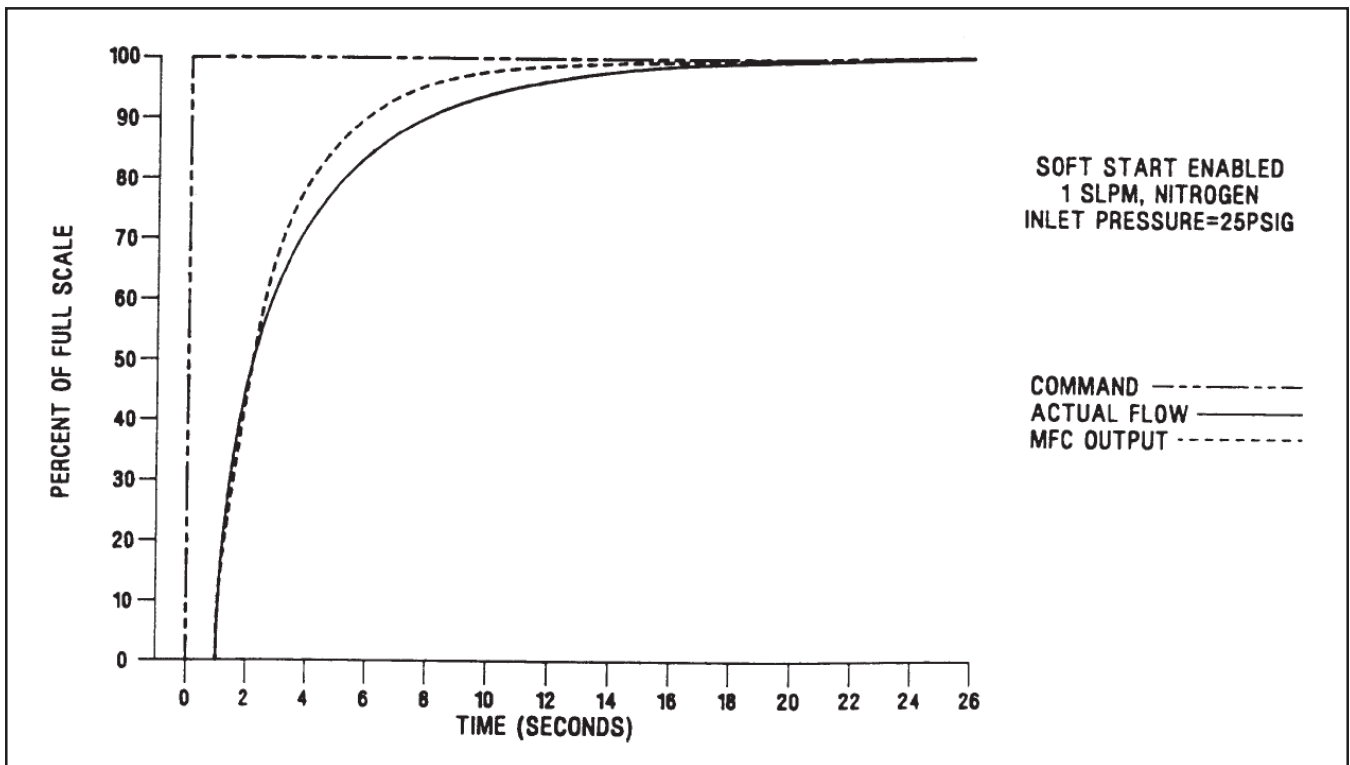

Figure 1-2 0 - 100% Command Step, Soft Start Enabled.
- **Soft Start** provides a flow ramping function which slows down the introduction of the process gas for those processes which cannot tolerate rapid flow transition. (Refer to Section 2-6 and Figure 1-2.)